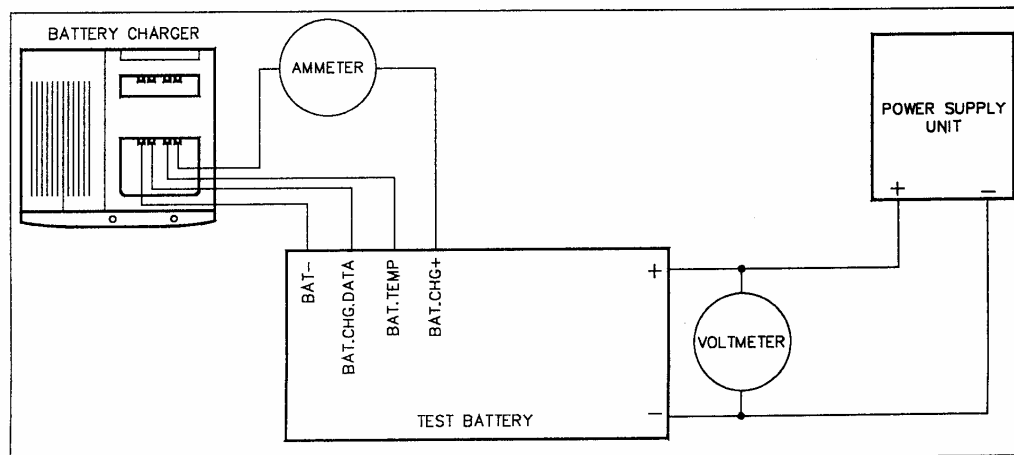

Fig. A.5 Alignment Test Connections
- (1) Connect the equipment as shown in Fig. A.5.
- (2) Remove the top cover from the charger.
- (3) Connect either